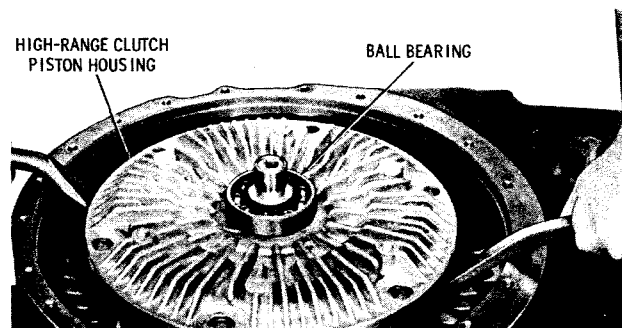

Fig. 5-19. Removing high-range clutch piston housing
(2) Using two screwdrivers, pry the high-range clutch piston housing and attached parts from the transfer drive gear (fig. 5-19). Refer to paragraph 6-11 for the high-range clutch piston housing rebuild instructions.